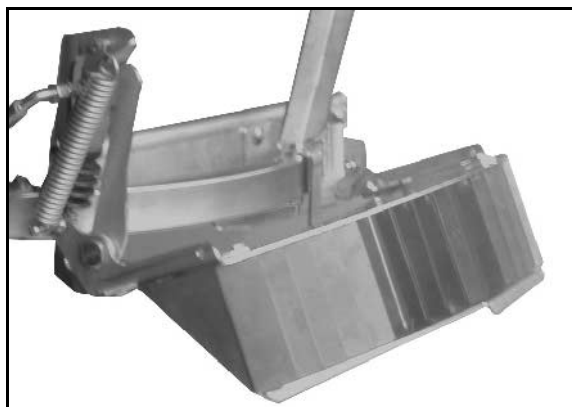

Fig. 50
Spreading material can build up inside the outlet openings (Fig. 50/1) of the guide chute to become too narrow to achieve a correct spread pattern. To achieve a correct spread pattern ensure that both outlets are clean. Therefore before every operation of the bulk spreader check or clean the outlets as follows
1. Remove guide chute. (Fig. 50/3).
2. Check or clean the outlet openings (Fig. 50/1).
3. Push guide chute back into position and affix by two clip pins (Fig. 50/2).